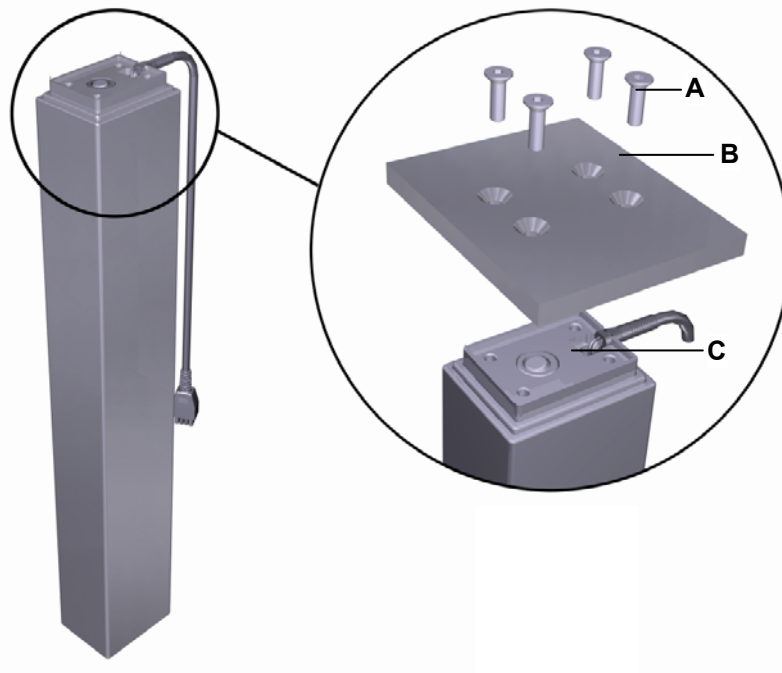

Figure 10 Mounting table top
- 1 Screw the table mounting plate with four screws to the head end of the lifting column Inlinedrive ID11, as shown in Figure 10 (maximum tightening torque = 10 Nm). The mounting dimensions are shown in Figure 9.